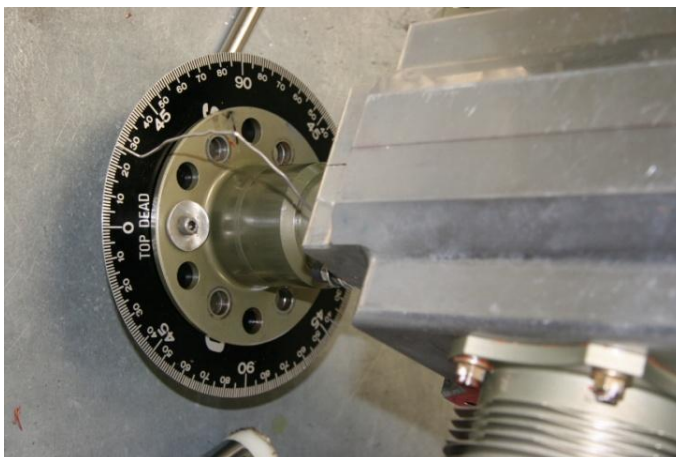

Figure 167 – Fitting Distributor Case & Setting Timing
- Apply Loctite 515 sealant to the gear case as shown in Figure 167.
- Rotate the engine to 25° before TDC on the compression stroke (indicated by the cam and crankshaft timing marks lining up) as shown in Figure 167.